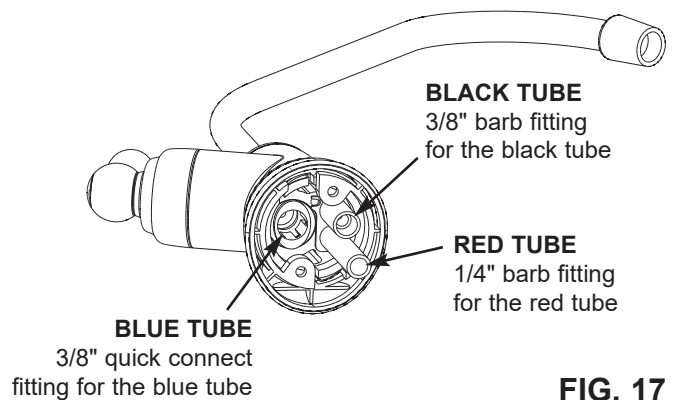

FIG. 17
4. Feed a length of 3/8" blue tubing up through the hole and insert end into the push-in fitting on the bottom of the faucet. See Figure 17. Push tubing through the collet and all the way into the fitting. Full engagement is 3/4" length of tube into the fitting. Pull on the tube to be sure it's held firmly in the fitting. The other end of this tubing will be connected to the RO system, as shown on page 15.
- C. Insert all the way onto the 1/4" faucet barb fitting on faucet. See Figure 17.